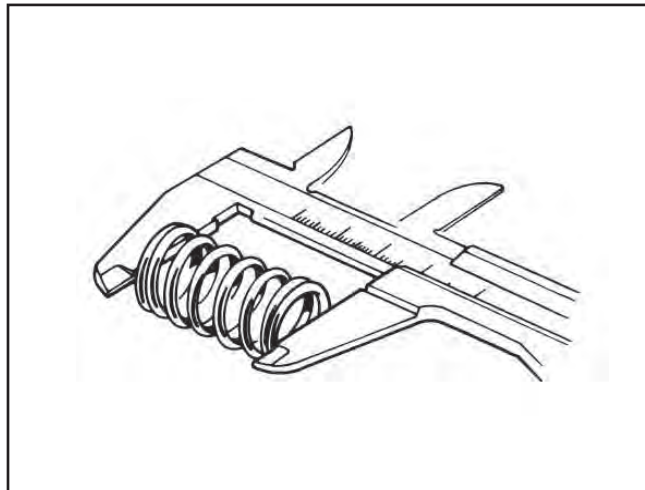

Figure 6
1. Inspect the free length of the valve spring. (Figure 6).